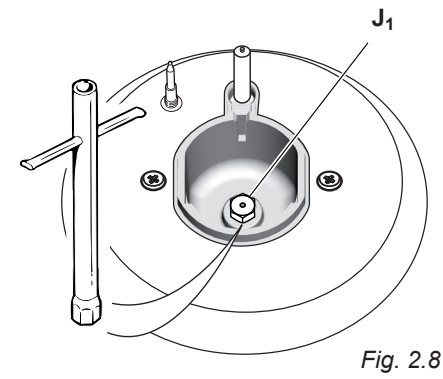

Fig. 2.8
- Using a wrench substitute the nozzle injectors "J₁", "J₂" and "J₃" (figs. 2.8, 2.9) with those most suitable for the kind of gas for which it is to be used.